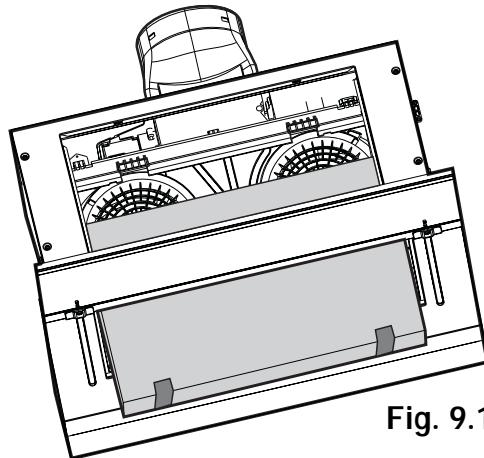
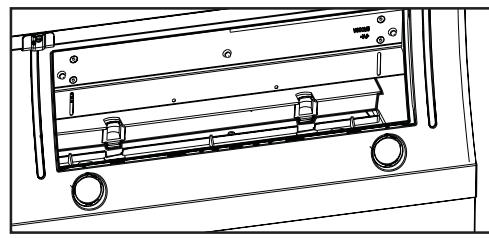

Fig. 9.1
Fig. 9.2
3. Locate the carbon filter under the top clips **T** (**Fig. 9.1**), then secure with the bottom clips **S** (**Fig. 9.2**).